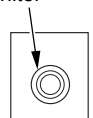

Figure 43 - Setting the Selector Switch and Control Knob for Hand-Held Remote Operation
1. After lighting, let pilot flame burn for about one minute. Turn control knob to ON position. Slide the remote selector switch to the REMOTE position (see Figure 43). **Note:** The burner may light if hand-held remote was on when the remote selector switch was last turned off. You can now turn the burner on and off with the hand-held remote control unit.